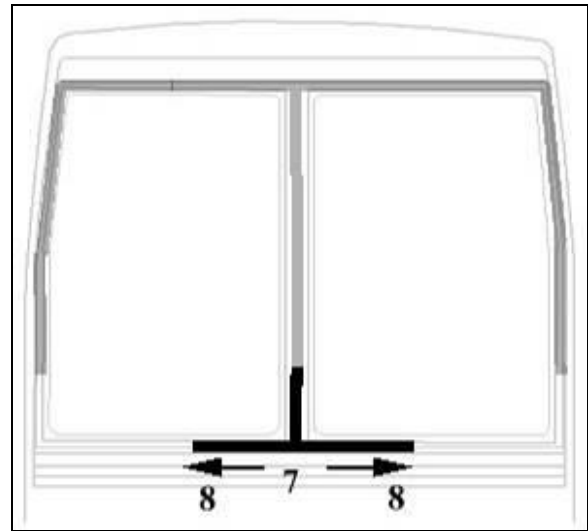

FIGURE 61
7. Apply soapy water. Insert the rubber extrusion at the location identified #7 (Figure 61). Make sure it is centered in relation to the vertical member.
8. Insert the rubber extrusion at the location identified #8 (Figure 61).